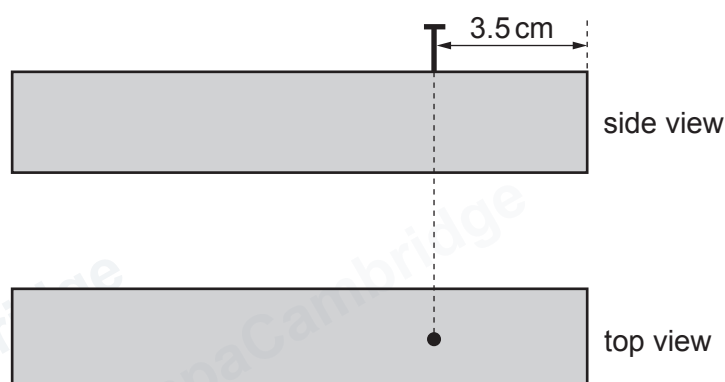

Figure 2.1
- 1 One nail should be hammered centrally into each of the wooden blocks as shown in Figure 2.1.